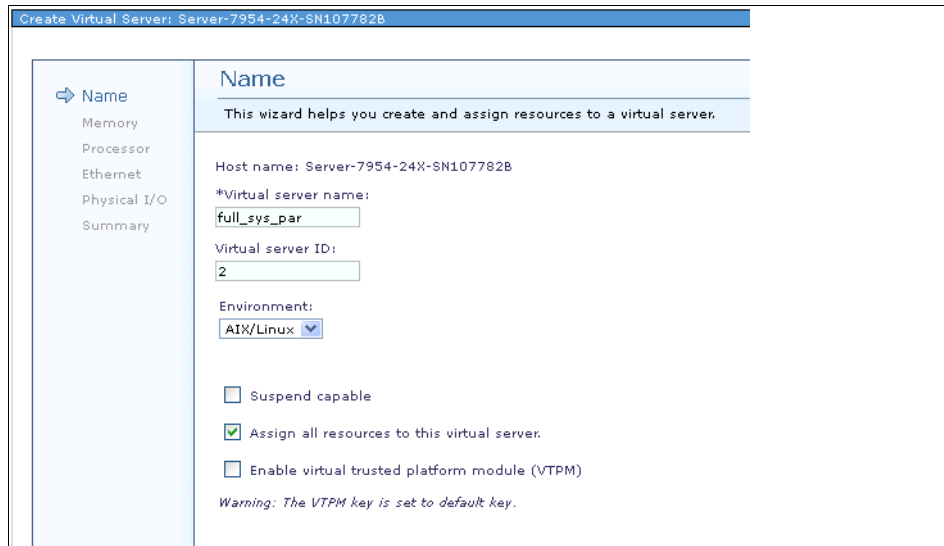

Figure 8-84 Assigning all resources to a full system partition with FSM
1. Complete the steps in “Creating the virtual server” on page 358 to reach the point that is shown in Figure 8-8 on page 359. The window that is shown in Figure 8-84 on page 431 opens.
2. Complete the fields that are shown in Figure 8-84 with the following information: